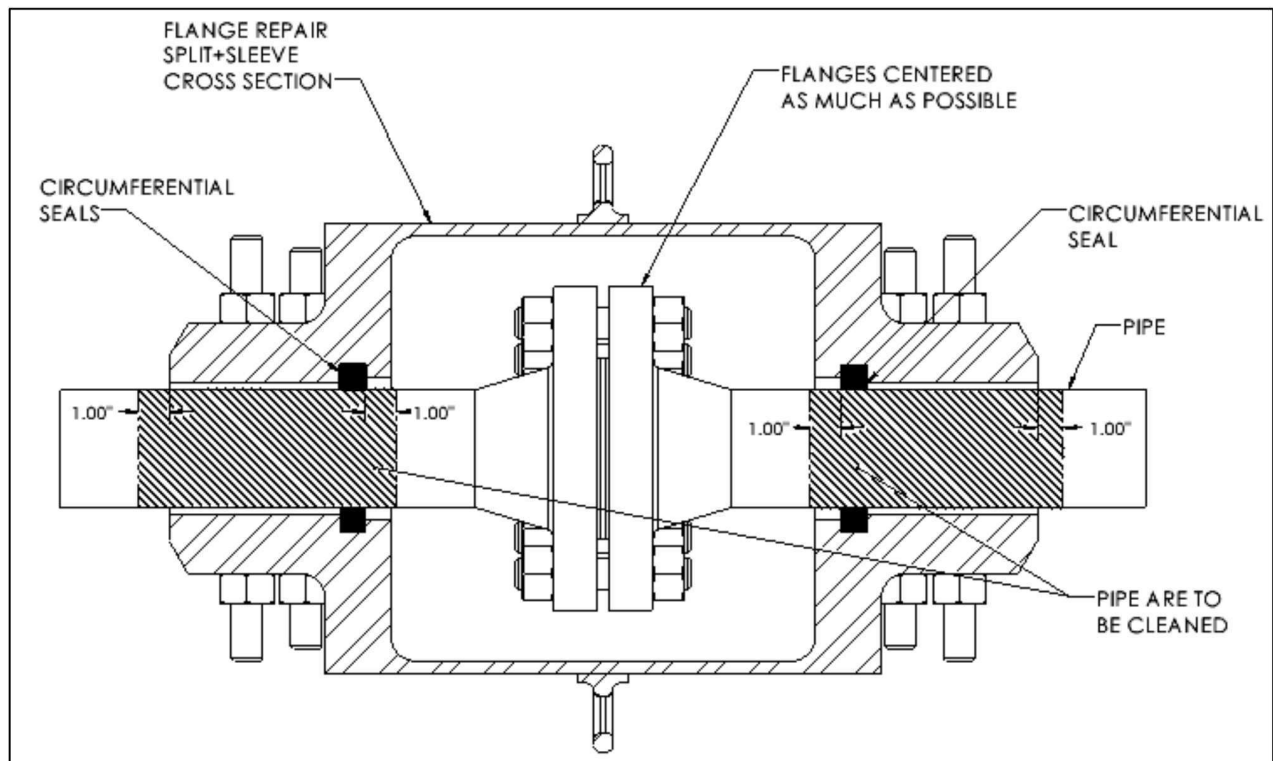

Figure 1
2. Remove all coatings, rust, and scale from the pipe surface where the circumferential seals of the PLIDCO Flange Repair Split+Sleeve will contact the pipe (see Figure 1). A near-white finish, as noted in SSPC-SP10 / NACE No.2, is preferred. The cleaner the pipe surface the more positive the seal. Sandblasted surfaces should be buffed smooth.
3. Where the circumferential seals will contact any longitudinal welds, circumferential welds, spiral pipe welds, or other protrusions, the welds in this vicinity must be ground flush with the outside diameter of the pipe. The area should extend 1 inch (25mm) inside of the seals and 1 inch (25mm) beyond the end of the fitting as shown in Figure 1 designated, "*Pipe area to be cleaned*".